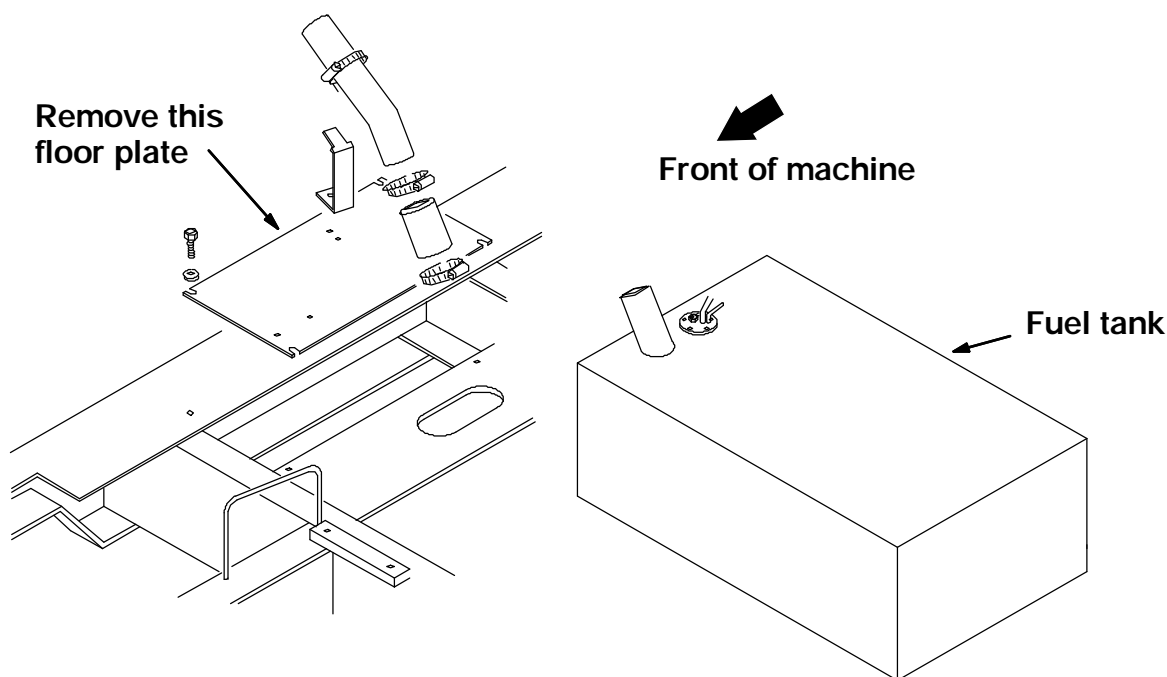

FIG. 2 - Remove Floor Plate
5. Open the RH side engine door. Remove the engine floor plate under the fuel tank filler neck. (Refer to Fig. 2)